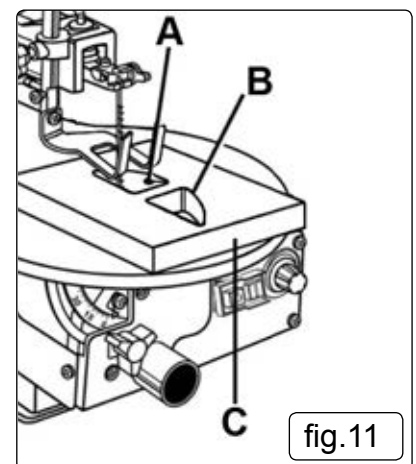

fig.11
6.7. **Interior Scroll Cutting fig.11**